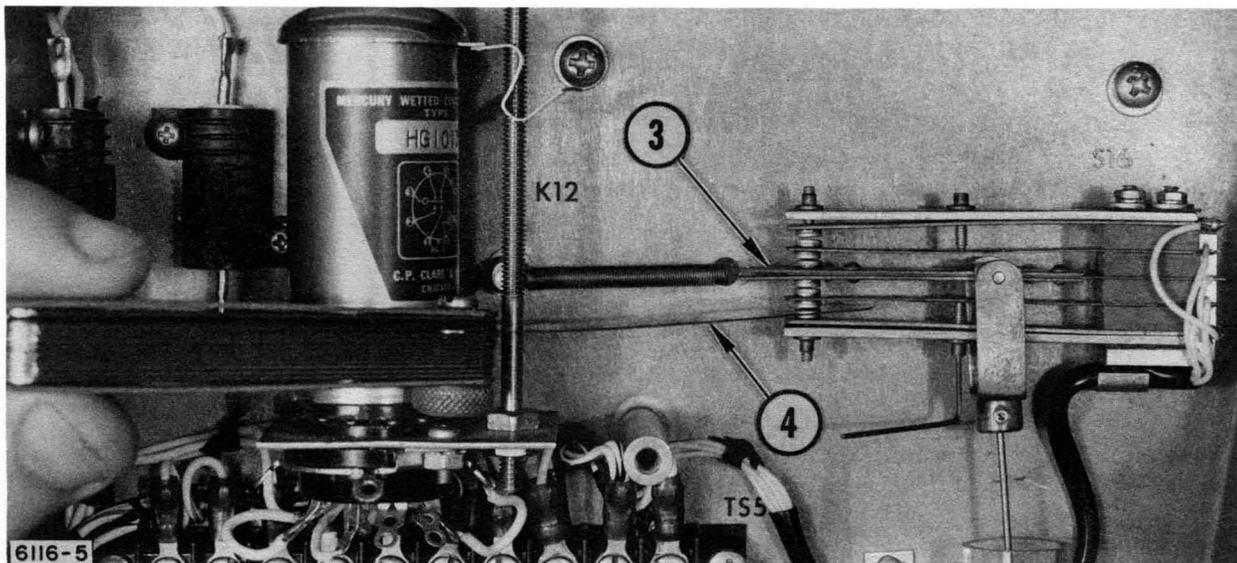

Figure 5-12. Checking Servo Contactor
Step 4: See Figure 5-12. Insert a 0.010-inch feeler gage between contacts on center contact leaf and inner leaf (one at a time). The gap should be 0.010 \pm 0.005-inch for each set of contacts.